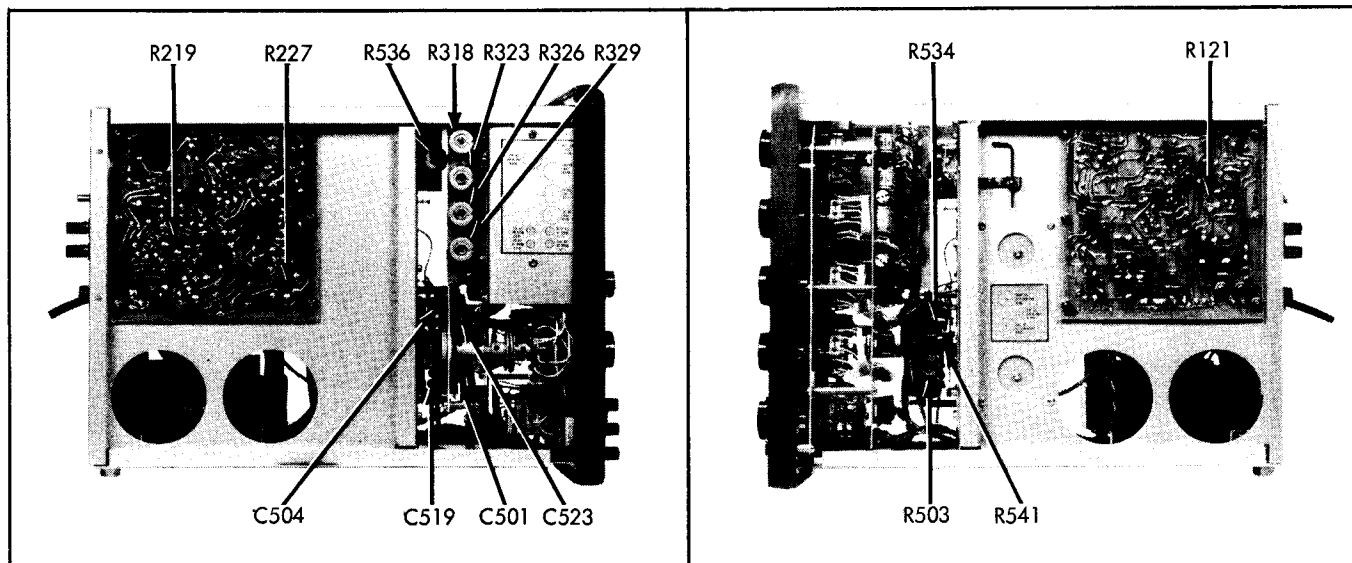

Figure 4-3. ADJUSTMENT LOCATIONS
a. **GENERAL.** The 803B can be calibrated as often as deemed necessary. However, it is recommended that Zener diode models be calibrated every three months and standard cell models be calibrated every six months. For special applications where extreme accuracy is required, it may be desired to calibrate the instrument more frequently. Calibration should be accomplished in a draft-free area with ambient temperature of 72 (± 3)°F for maximum accuracy under laboratory operation conditions. The recommended equipment and the specifications required for DC Differential Voltmeter calibration and AC to DC Converter calibration are shown in figure 4-2. All controls may be located with the aid of figure 4-3. The recommended calibration set-up is shown in figure 4-5 for DC Differential Voltmeter calibration and in figure 4-6 for AC to DC Converter calibration.